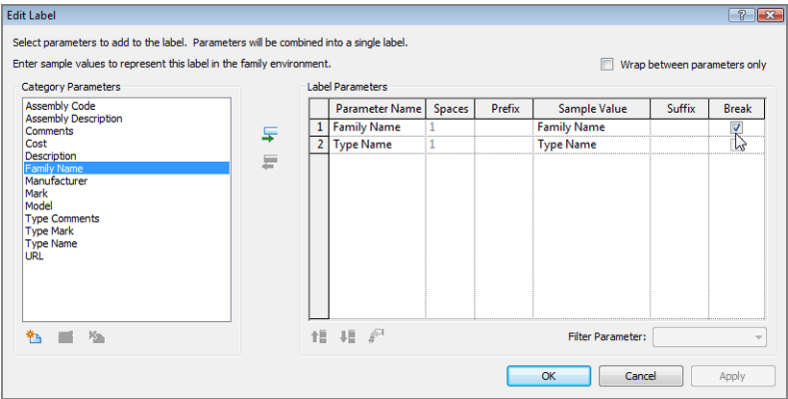

FIGURE 11.84: This time you’re adding two parameters. By selecting the Break check box, you tell Revit to stack the parameters.
6. In the Edit Label dialog, add the Family Name and Type Name parameters, as shown in Figure 11.84.
- 7. In the Family Name row, select the Break check box (see Figure 11.84).